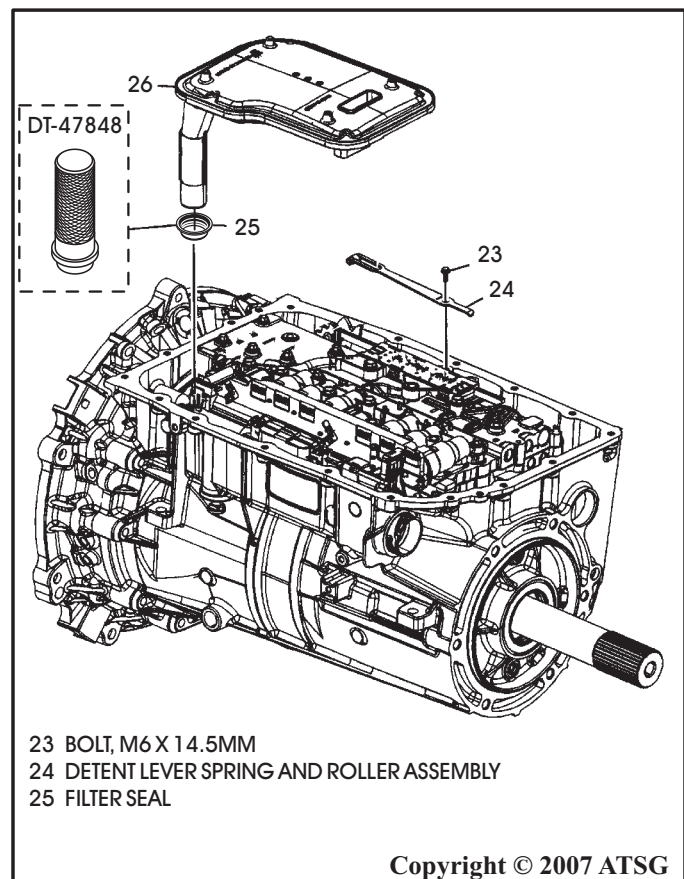

Figure 172
39. If not already done, install new filter seal into oil pump bore, as shown in Figure 172, using the proper seal driver.
40. Install a new oil filter assembly, as shown in Figure 172.
41. Install the detent spring and roller, as shown in Figure 172, torque bolt to 12 N·m (106 in.lb.).